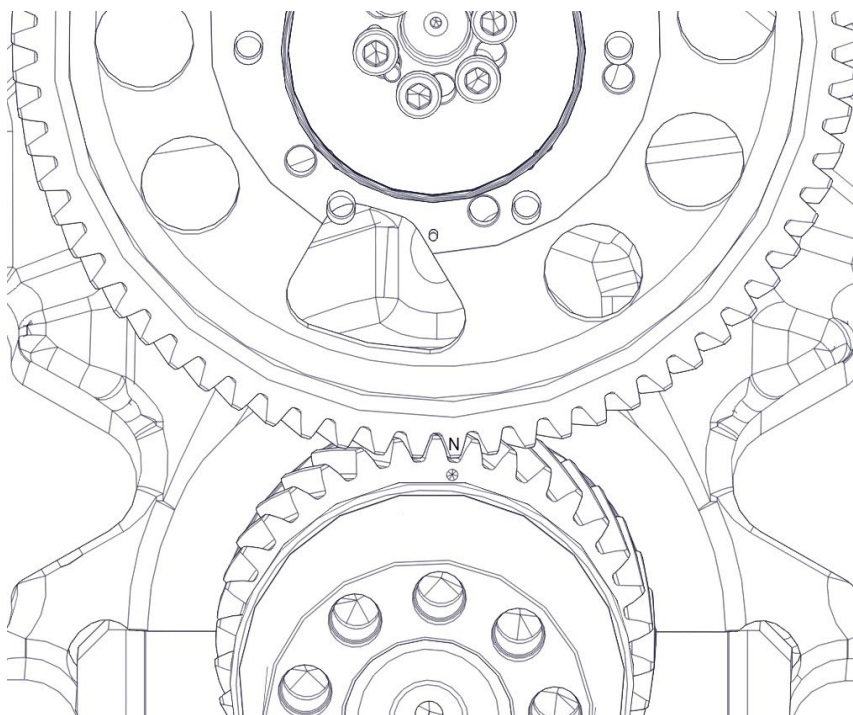

Figure 139.
6. If necessary, rotate the camshaft gear and align the “N” mark with the crankshaft gear mark (Figure 139).